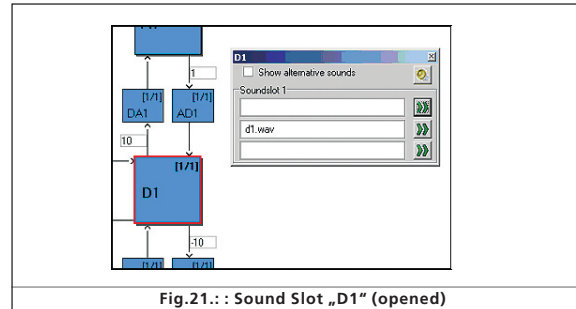

Fig.21.: Sound Slot „D1“ (opened)
- A pop-up window opens as shown in Fig. 21.